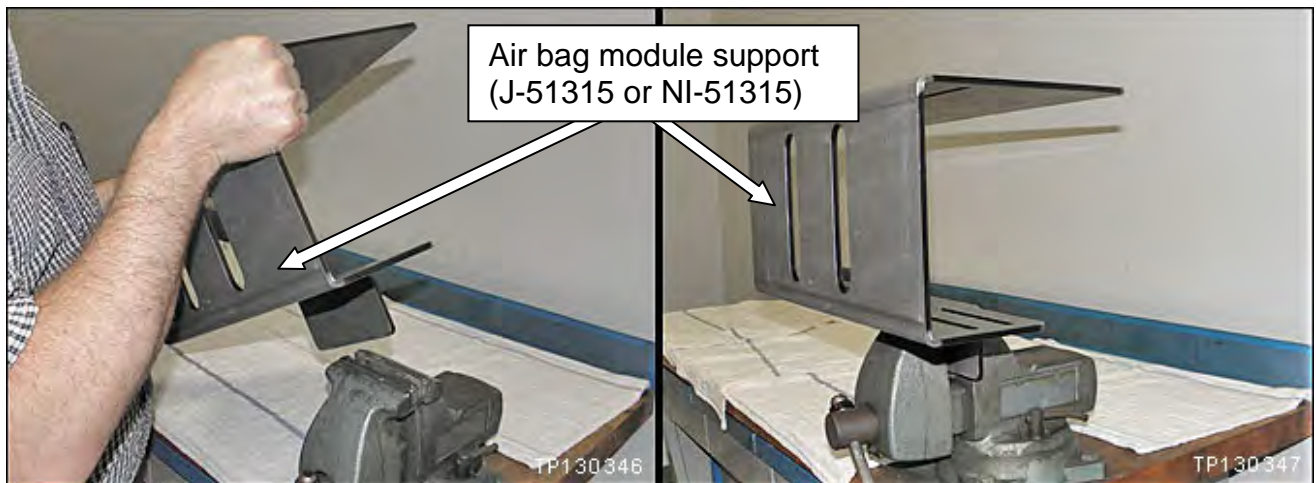

Figure 14
- Securely mount the air bag module support (support) in a vise (Figure 14).